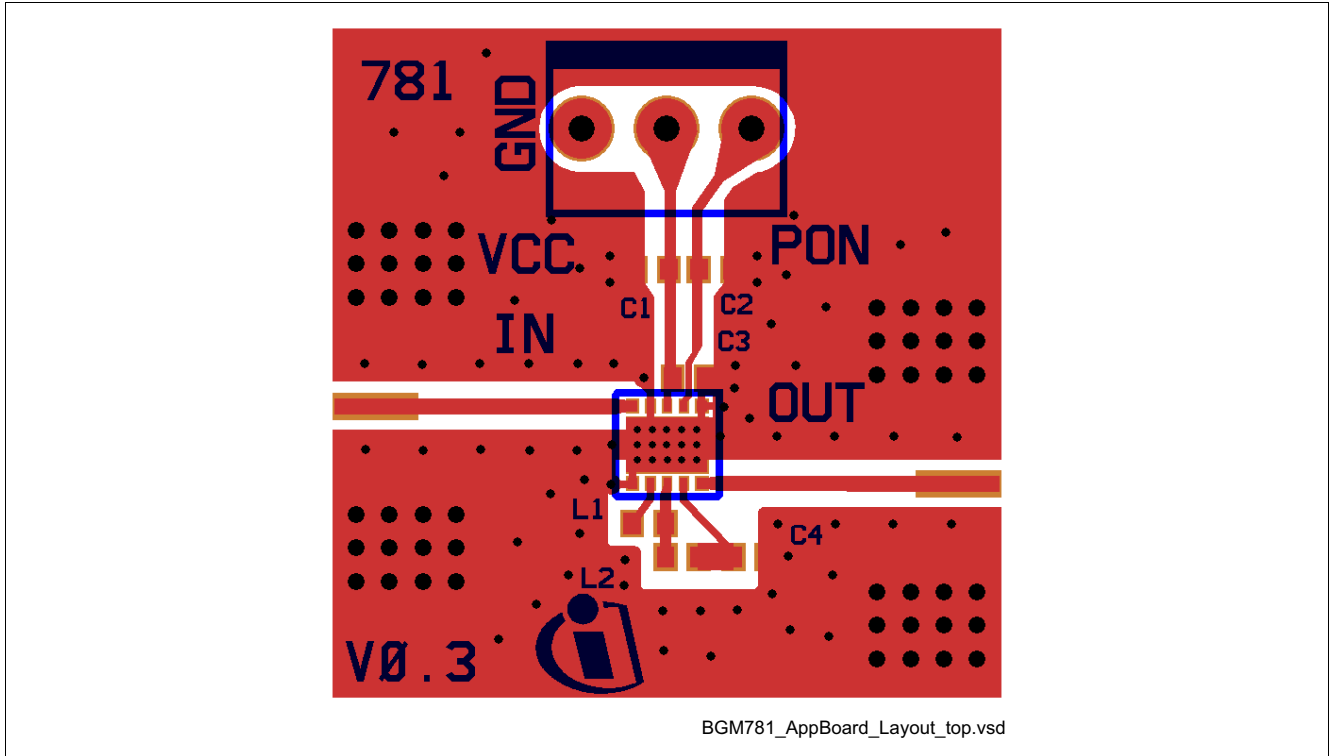

Figure 3 Top view of application board
1) Specification based on performance as measured on BGM781N11 application board shown in Figure 3 and including PCB losses (unless noted otherwise)